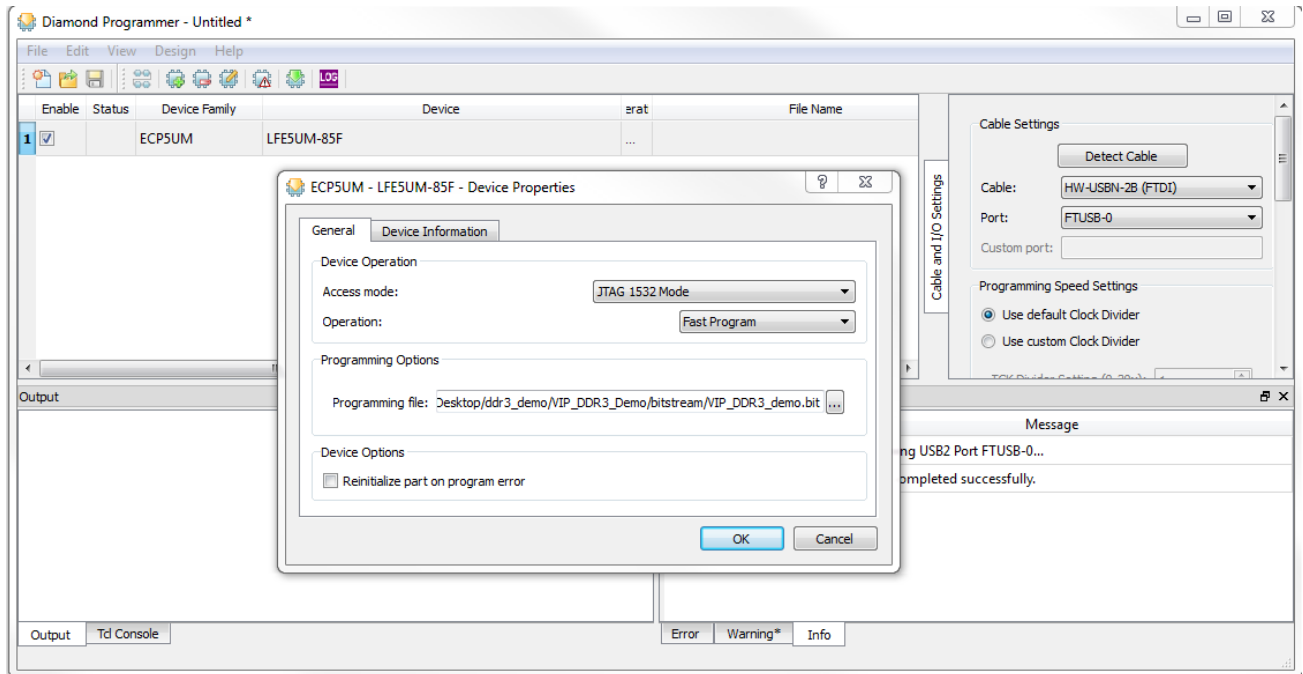

Figure 7.3. Device Properties
6. For operation, select **Fast Program** as shown in Figure 7.3.